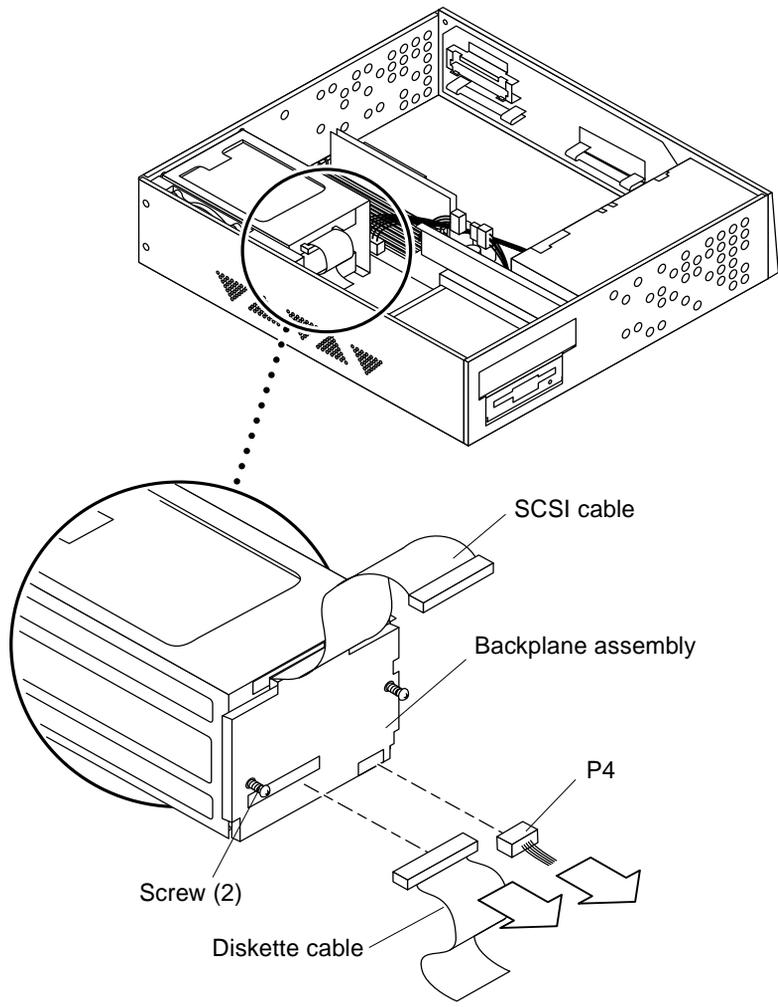
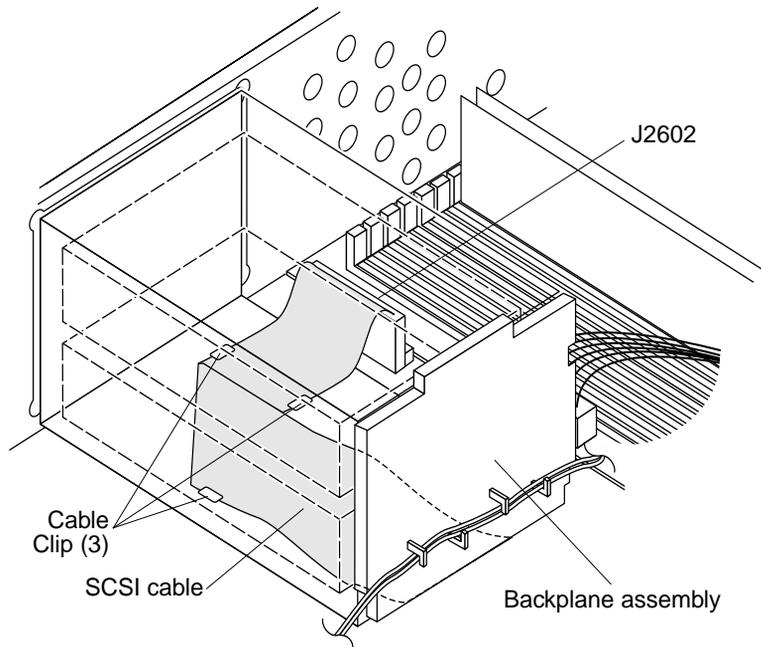

FIGURE 8-14 SCSI/Backplane Assembly Cable Connection
FIGURE 8-15 Removing the Backplane Assembly
6. Disconnect the following (FIGURE 8-14 and FIGURE 8-15):
1. Route the SCSI cable under the three cable clips in the base of the chassis and through the opening near the front edge of the system board (FIGURE 8-15).
5. **Connect the following** (FIGURE 8-14):